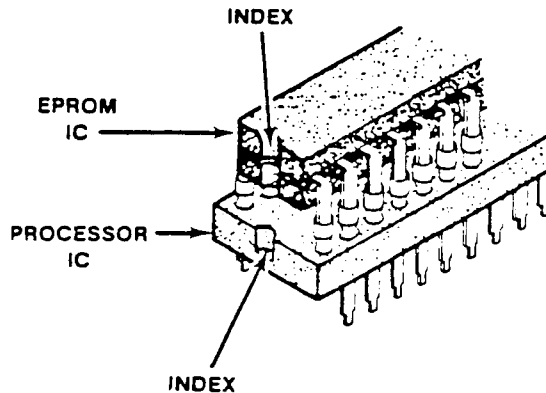

Figure 2. - EPROM indexing.
- () 3. Install the new EPROM microcircuit into the socket (slowly seat the EPROM into the socket) using the same tool used in step 2. Check that all the microcircuit pins are straight and evenly spaced to ensure proper installation. Refer to Figure 2, for component indexing.